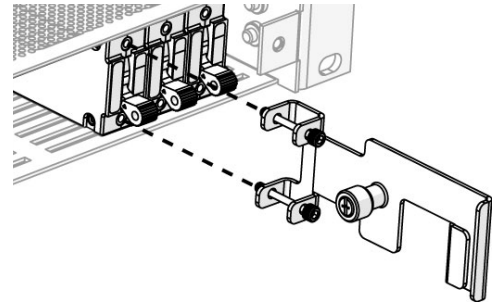

Figure 17. Breaker extraction tool
- Step 3.** Using the captive screws, attach the breaker extractor to the breaker. There are threaded inserts on the face of the breaker for this purpose (see Figure 17).